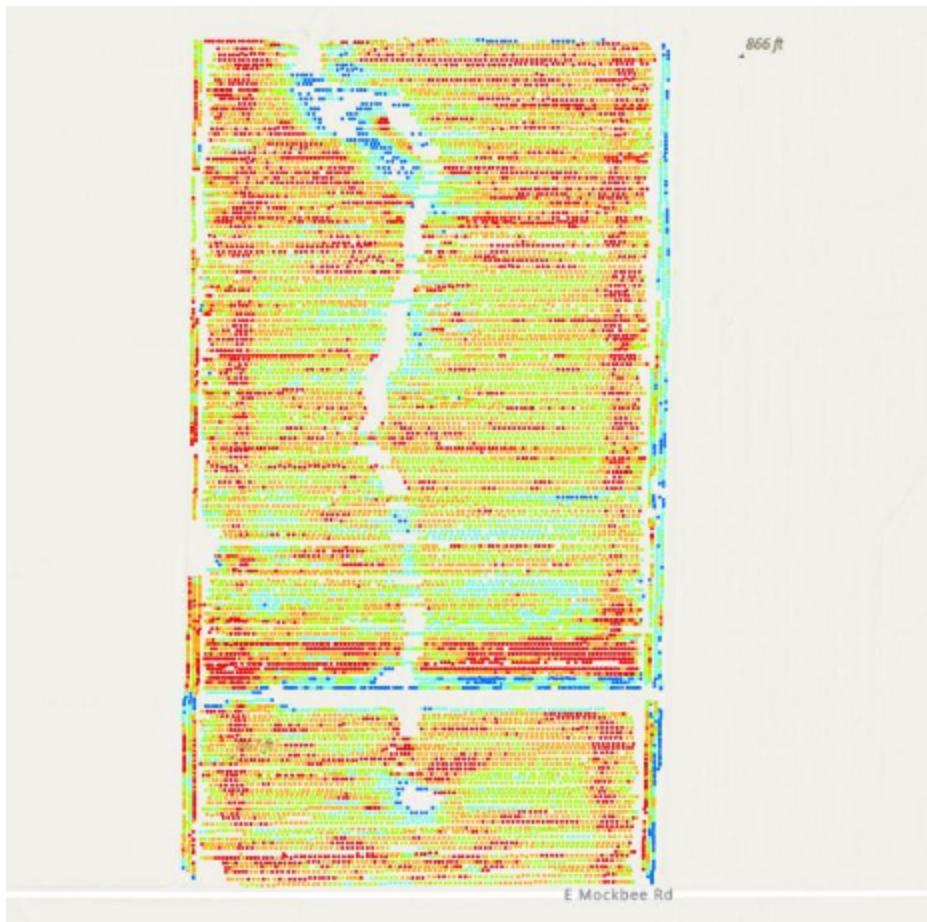

Figure 9. Here is an example of what a map might look like in ArcGIS after modifying the symbology and zooming to the field extent.
31.1 To view variation in the map more clearly, we recommend modifying the symbology. We used graduated colors, the natural breaks (Jenks) classification method, and 10 classes (Figure 9). For the color scheme, the same colors used in Yield Editor were selected to provide the same view in ArcGIS. In addition, all symbols were formatted to decrease their size and remove their black outline.